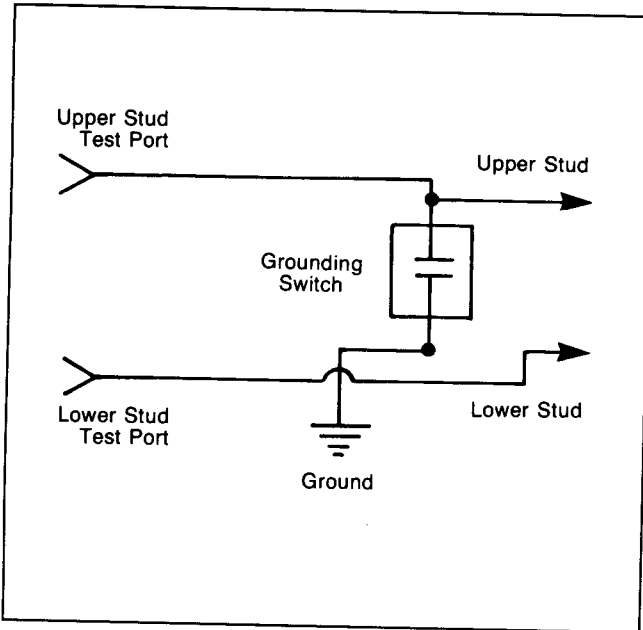

**Figure 6.** GMI-GTD-A
**Figures 6 and 7** show the appropriate interlock interference block positions. Interference block positions are viewed from the front panel side of the GTD.
the user with the equipment. These operational checks should be performed with GTD withdrawn completely from the cubicle in an area of sufficient size to facilitate the GTD's inspection from any direction. Reference to the GTD elementary diagram, **Figure 5** for upper cell devices and **Figure 6** for lower cell devices will facilitate understanding.